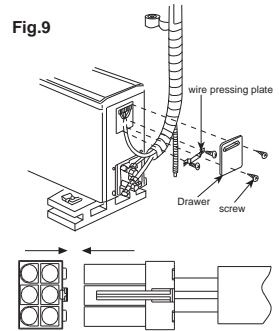

Fig.10
**Quick coupler:**directly connect quick cable couplers with indoor and outdoor quick cable couplers after disassembly of the outdoor unit connecting box cover (Fig.10).